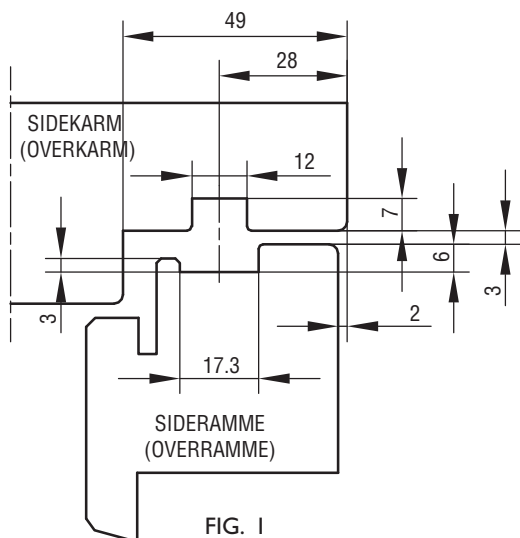

FIG. 1
1. SIDE- OG ØVERSTE KARM OG RAMME FORSYNES MED GENNEMGÅENDE NOTER, SE FIG. 1.